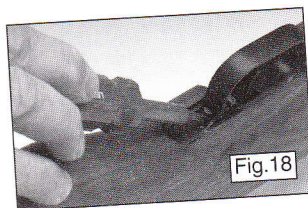
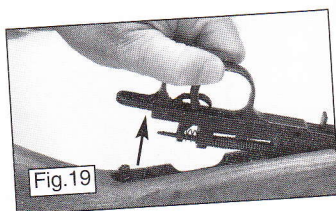

Fig. 18
Fig. 19
6. To remove the trigger assembly, the safety must be in the "on" position. Depress the catch located behind the trigger guard (Fig. 18) and pull the trigger group out of the rifle (Fig. 19).